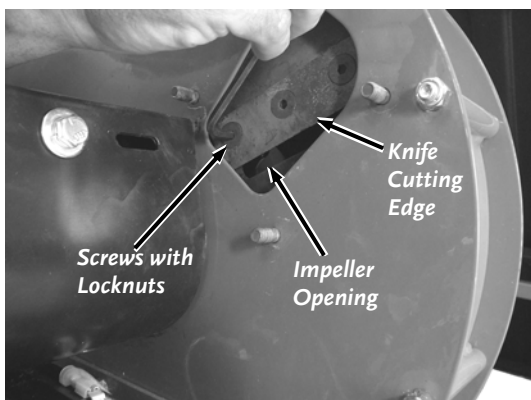

Figure 47
4. Carefully rotate the flywheel with a stick until the Knife is at the Hopper opening (**Figure 47**).